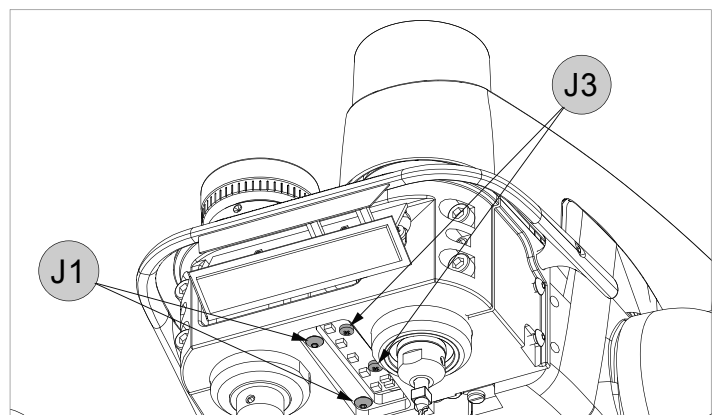

Fig. 41
- 3) Loosen and remove the 2 screws (J1) securing the lamp glass (Fig. 41).